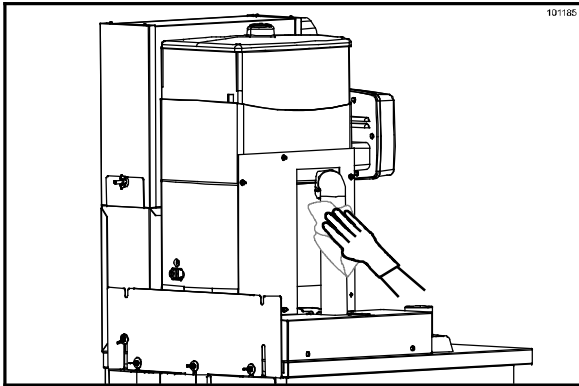

Figure 83
29. Using clean, sanitized towels and the spray bottle of sanitizing solution, wipe the black tubing to remove any potential buildup. Do not allow sanitizer to drip onto the surface below. (See Figure 83.)